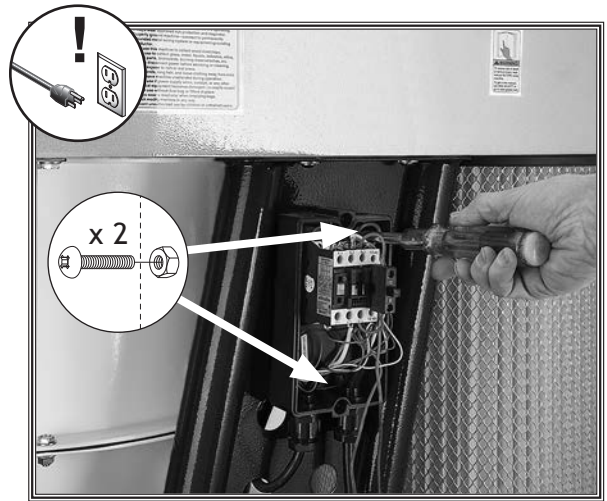

Figure 29. Example of installing magnetic switch on support arm.
- 31. Install magnetic switch over FIX SWITCH HERE label (left support arm for Models W1867 and W1868, right support arm for Model W1869), then secure with (2) 10-24 x 3/4" Phillips head screws and (2) 10-24 hex nuts (see Figure 29).